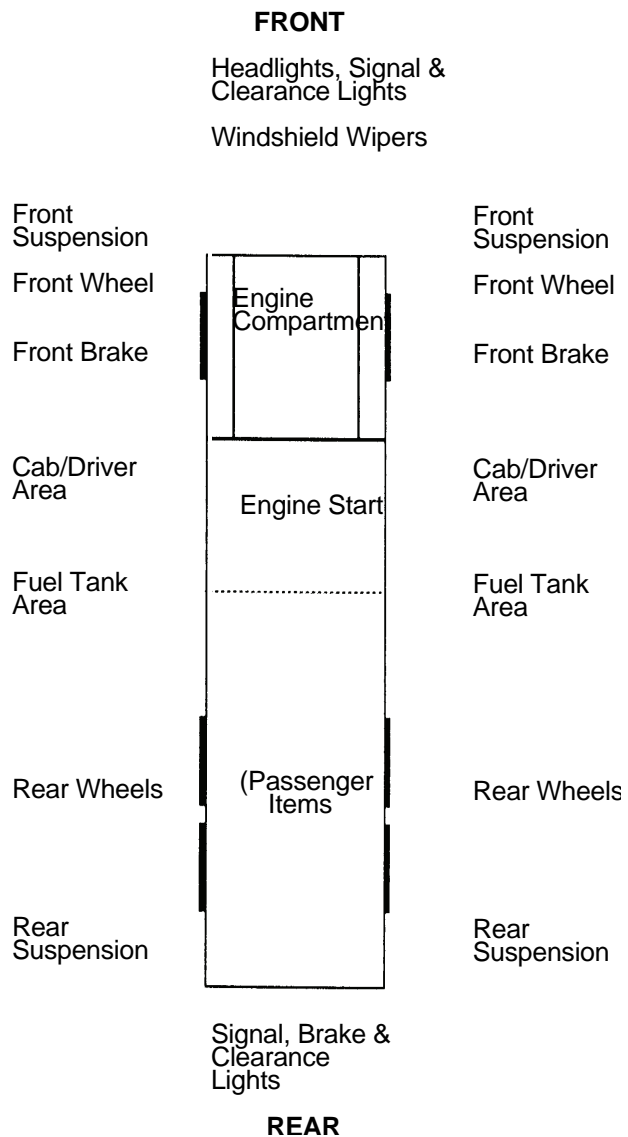

Figure 2-5. Straight Truck/School Bus
In order to obtain a CDL you will be required to pass a pre-trip vehicle inspection test. You will be tested to see if you know whether your vehicle is safe to drive. You may be asked to do a pre-trip inspection of your vehicle and explain to the examiner what you would inspect and why. Section 10 of this manual tells you what to inspect and how to inspect it. Some states allow the guides shown in Figures 2-5, 2-6, and 2-7 to be used as a memory aid when taking your test.
**Method of Inspection.** You should do a pre-trip inspection the same way each time so you will learn all the steps and be less likely to forget something. The following seven-step method should be useful. Guides are shown in Figures 2-5, 2-6, and 2-7.